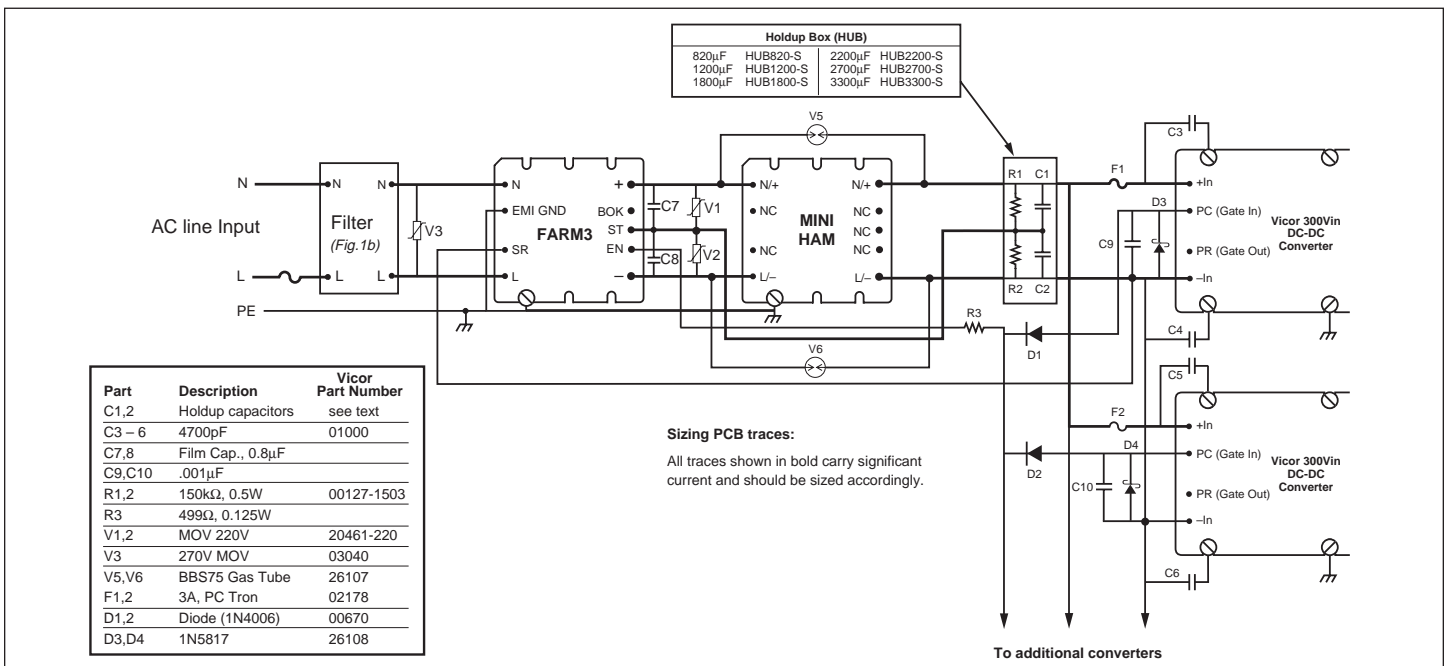

Figure 1a—ENMods system and DC-DC converter interconnection drawing
Electrical characteristics apply over the full operating range of input voltage, output power and baseplate temperature, unless otherwise specified. All temperatures refer to the operating temperature at the center of the baseplate. Performance specifications are based on the ENMods system as shown in Figure 1a.
■ MINIHAM MODULE SPECIFICATIONS (when used in accordance with Figure 1a)
■ ELECTROMAGNETIC COMPATIBILITY (configured as illustrated in Figures 1a and 1b)
Operating Characteristics (Conducted emissions relative to EN55022 Reference Figure 1a)
The ENMods system provides transient/surge immunity, harmonic current attenuation and EMI filtering, in addition to all of the power switching and control circuitry necessary for autoranging rectification, inrush current limiting, and overvoltage protection. Converter enable and status functions for orderly power up/down control or sequencing are also provided. To complete the AC front end configuration, the user only needs to add hold-up capacitors, a simple EMI filter, and a few discrete components (Fig 1A).
Pin Descriptions (see Figure 1a)
It should be noted that the series combination ($C1$, $C2$, see Figure 1a) requires each capacitor to be twice the calculated value, but the required voltage rating of each capacitor is reduced to 200V.